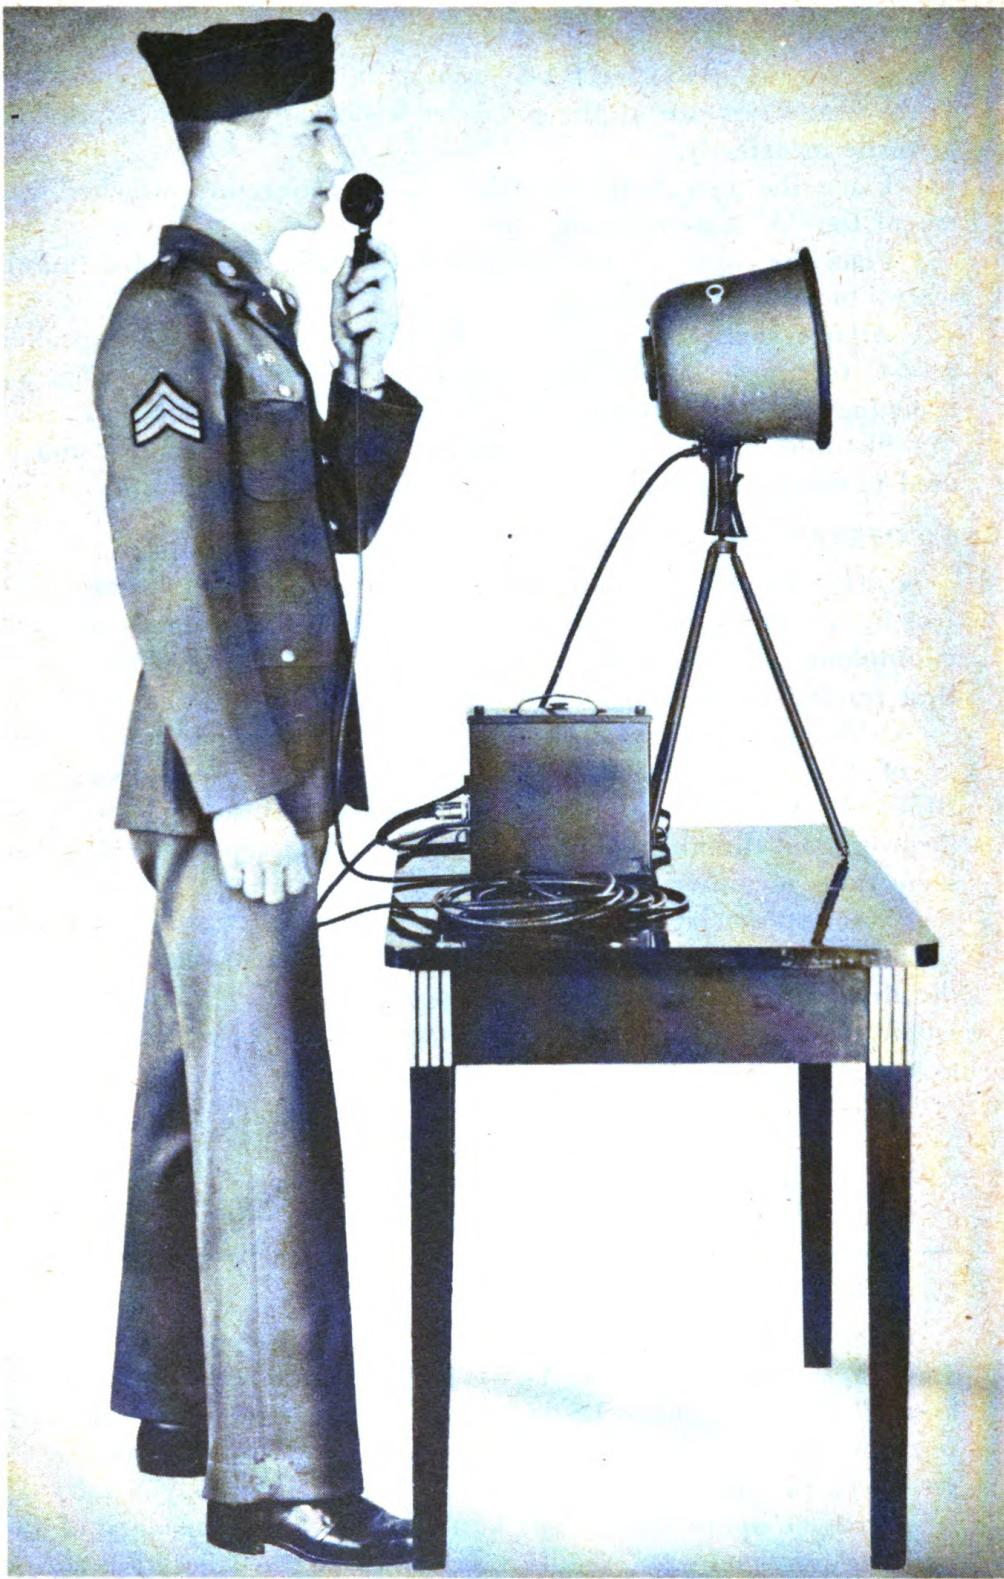

Figure 4. Public Address Equipment PA-4-C, showing Microphone T-36-C in use (auditorium)
- (3) No capacitors are used in this circuit. The microphone coupling resistor and the volume control are the only resistors used.
- (4) The amplifier employs one tube type 1H4G and one tube type 1J6G.
- (5) The volume control can be turned to full volume when using Microphone T-36-C with the amplifier and speaker as shown in (figs. 4 and 5.)